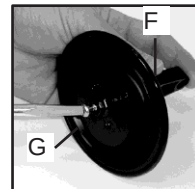

Figure 4.
5. To replace the diaphragm, remove the connecting rod retaining screw (G) from the plunger and lever (F). Replace the diaphragm and reassemble. See Figure 4.